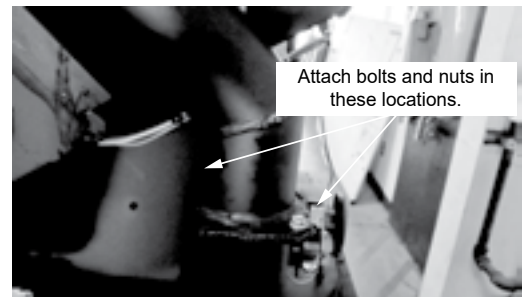

Figure 21.4
3. Using a 3/8-inch wrench and 7/16-inch socket wrench fasten Rear Shroud Top Vent to the exhaust transition with two bolts and two nuts. Secure with two clamps from the appliance (**Figures 21.4 and 21.5**).